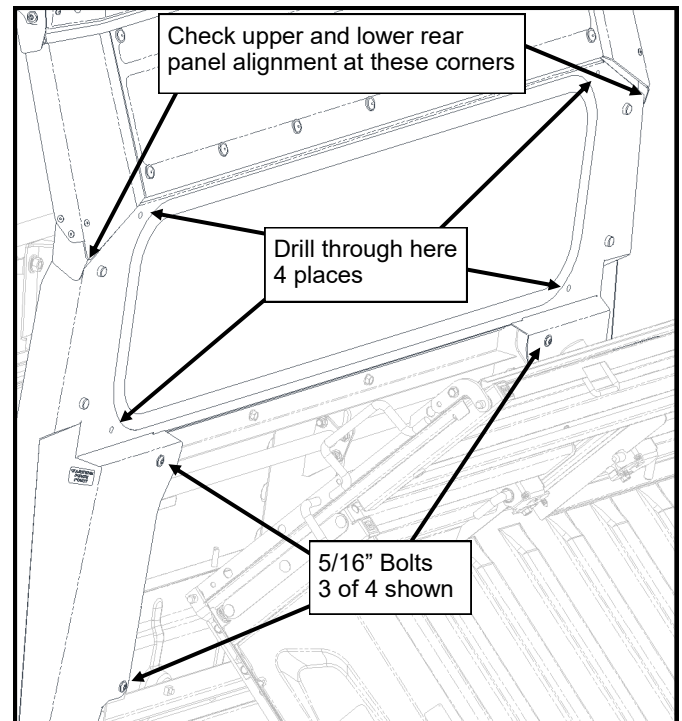

Figure 10.2: Lower Rear Panel
- 10.2 Shift the lower panel and rear seat back left or right as needed to center it under the upper rear panel. (see Figure 10.2). If more movement of the lower panel is needed, loosen the (4) 5/16" lower bolts and shift the lower rear panel left or right. Tighten the bolts snug.
- 10.3 Using the holes in the upper portion of the lower rear panel as a guide, drill (4) 11/32" holes through the screen frame of the rear seat (see Figure 10.2).